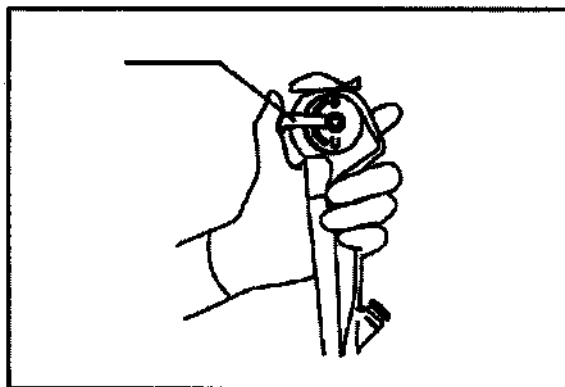

Fig 3.6
2. As shown in Figure 3.6 when moving the UP/DOWN angle control handle to the natural position, confirm that the curved part can be smoothly restored to a nearly straight condition.
2. Hold the mirror with your left hand and put the thumb on the Angle lever, as shown in the Fig3.6